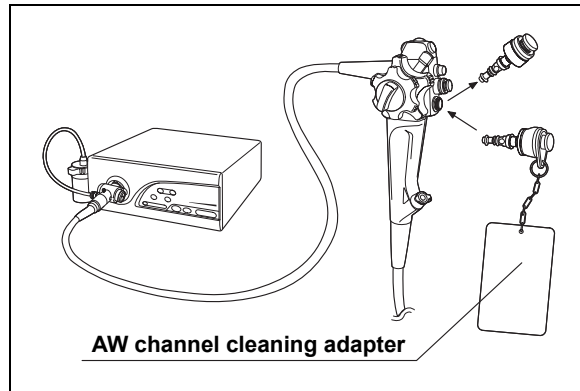

Figure 3.13
4. Remove the air/water valve from the endoscope and place it in a container of detergent solution (see Figure 3.13).
5. Attach the AW channel cleaning adapter to the air/water cylinder of the endoscope (see Figure 3.13).